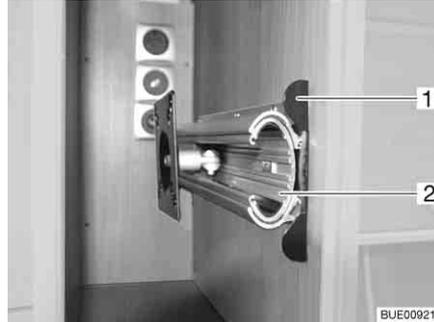

Fig. 53 Holder in the TV cabinet
- Push the unlocking bar (Fig. 53,1) in.
- Pull out the extension (Fig. 53,2) as far as possible.
- Push in the extension (Fig. 53,2) until the unlocking bar (Fig. 53,1) engages.